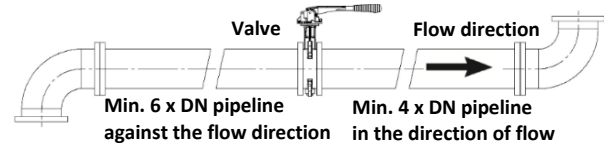
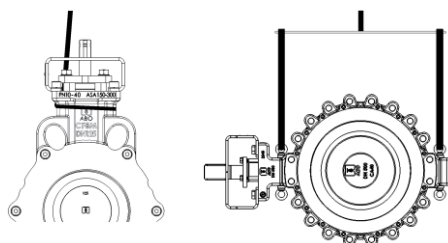

Fig. 2: Valve in the pipeline
Fig. 3: Recommended suspension when lifting valves
- Recommendation: The valves must be installed in piping with a stabilized flow. The general rules for stabilizing flow behind a pipe element causing turbulence (e.g., pump, other valves, etc.) must be observed. Generally, calculate a minimum of 6xDN upstream and a minimum of 4xDN downstream (Fig. 2), but this depends on the specific conditions specified by the designer.
- Operation of the actuator mounted on the valve is permitted only when the butterfly valve is connected to the pipeline on both sides. Operating the valve without meeting this condition poses a risk of injury, for which the user is solely responsible. An exception applies to valves with a normally open (NO) actuator, where the disc is in the open position by default. In this case, it is essential to partially close the disc before installation using air or the actuator controls.
- The valve must be lifted using slings passed through the lifting lugs, or threaded lifting eyes screwed into the T-body or valve neck (Fig. 3). Never lift the valve by the actuator or through the internal disc opening.
- When handling larger valves with a crane, they must be lifted only by the body or lifting eyes, never by the actuator or lever (Fig. 3).